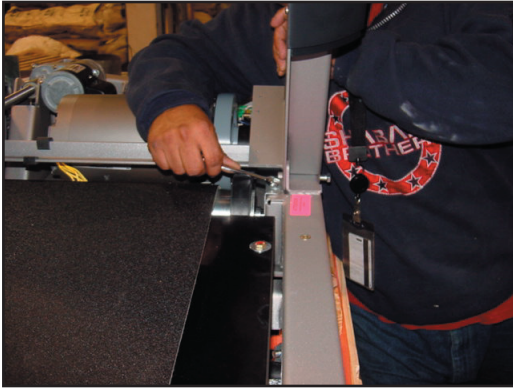

Figure 2.6
- 2.5 Remove the screw from the Front Roller Retaining Bracket on the left and right side, then remove the brackets (see Figure 2.6).